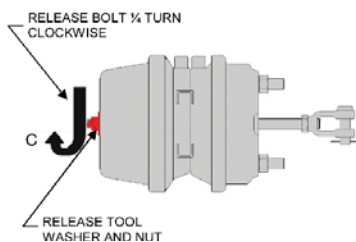

Figure 8
5. To cage the compression spring mechanically, use a hand wrench to tighten the release tool nut. Ensure the service push rod is retracting while tightening the release tool nut. Do not use an impact wrench to tighten the nut. Refer to Figure 8, Arrow "C."